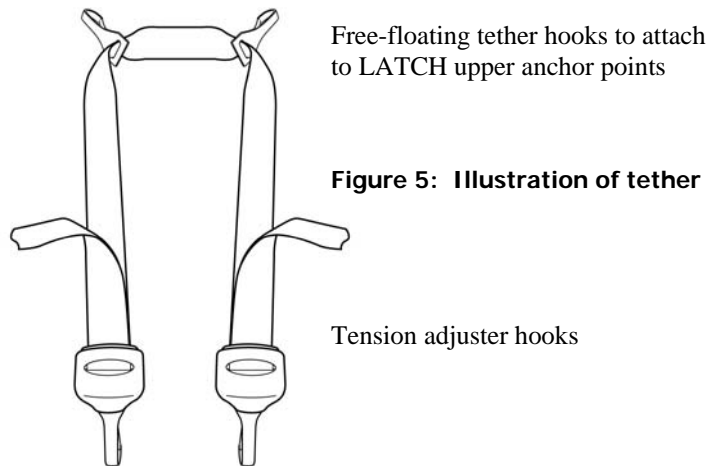

Figure 5: Illustration of tether
2. The tether has two (2) tension adjuster hooks (one located on each end of the tether) and two (2) "free-floating" tether hooks. See Figure 5.